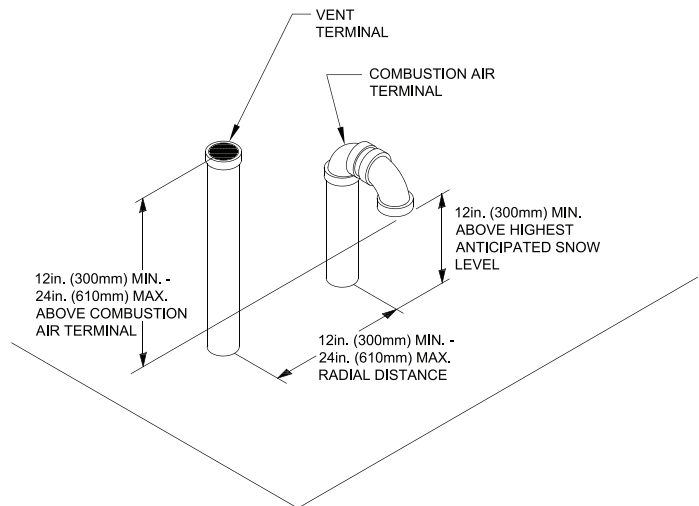
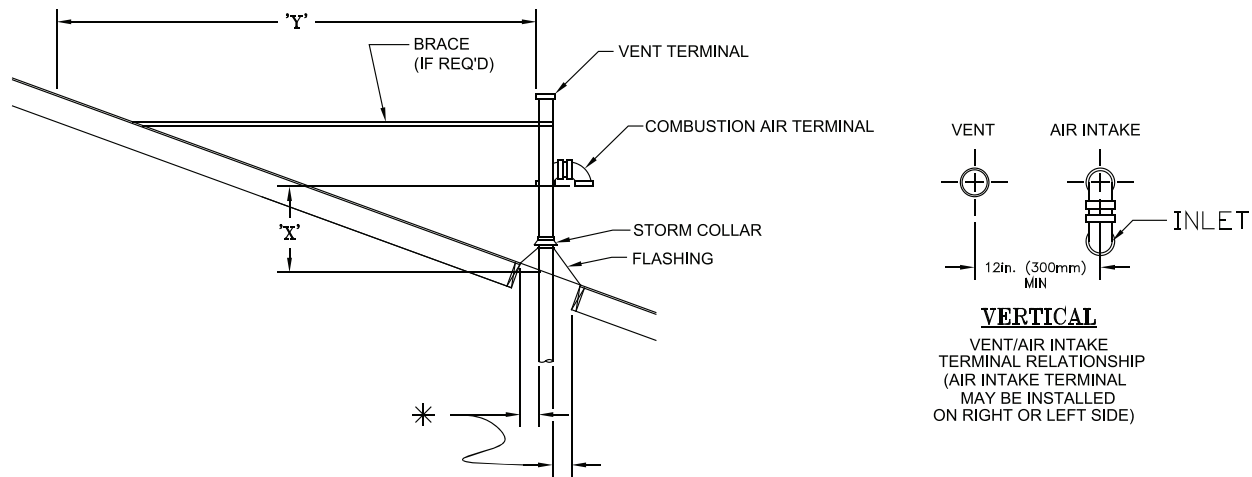

Figure 7: Direct Vent - Vertical Terminations
Figure 8: Direct Vent - Vertical Terminations with Sloped Roof
- ii. Vertical Roof Venting: Use straight coupling on vent and two 90° elbows turned downwards for combustion air as shown in Figure 7 and Figure 8.
- c. See Table 7C for CPVC/PVC installer provided vent and combustion air components required for optional vertical roof terminals shown in Figure 7.